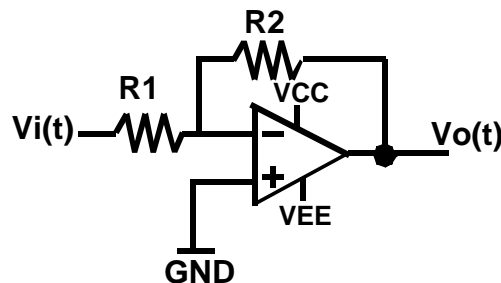

Figure 1. Inverting amplifier.
For the circuit in figure 1, assuming the opamp is ideal, answer the following questions:
Build the circuit in Figure 1 using power supplies  $\pm 12$  V and the resistor values from your design in the Pre-lab, section 6.1 item 1.